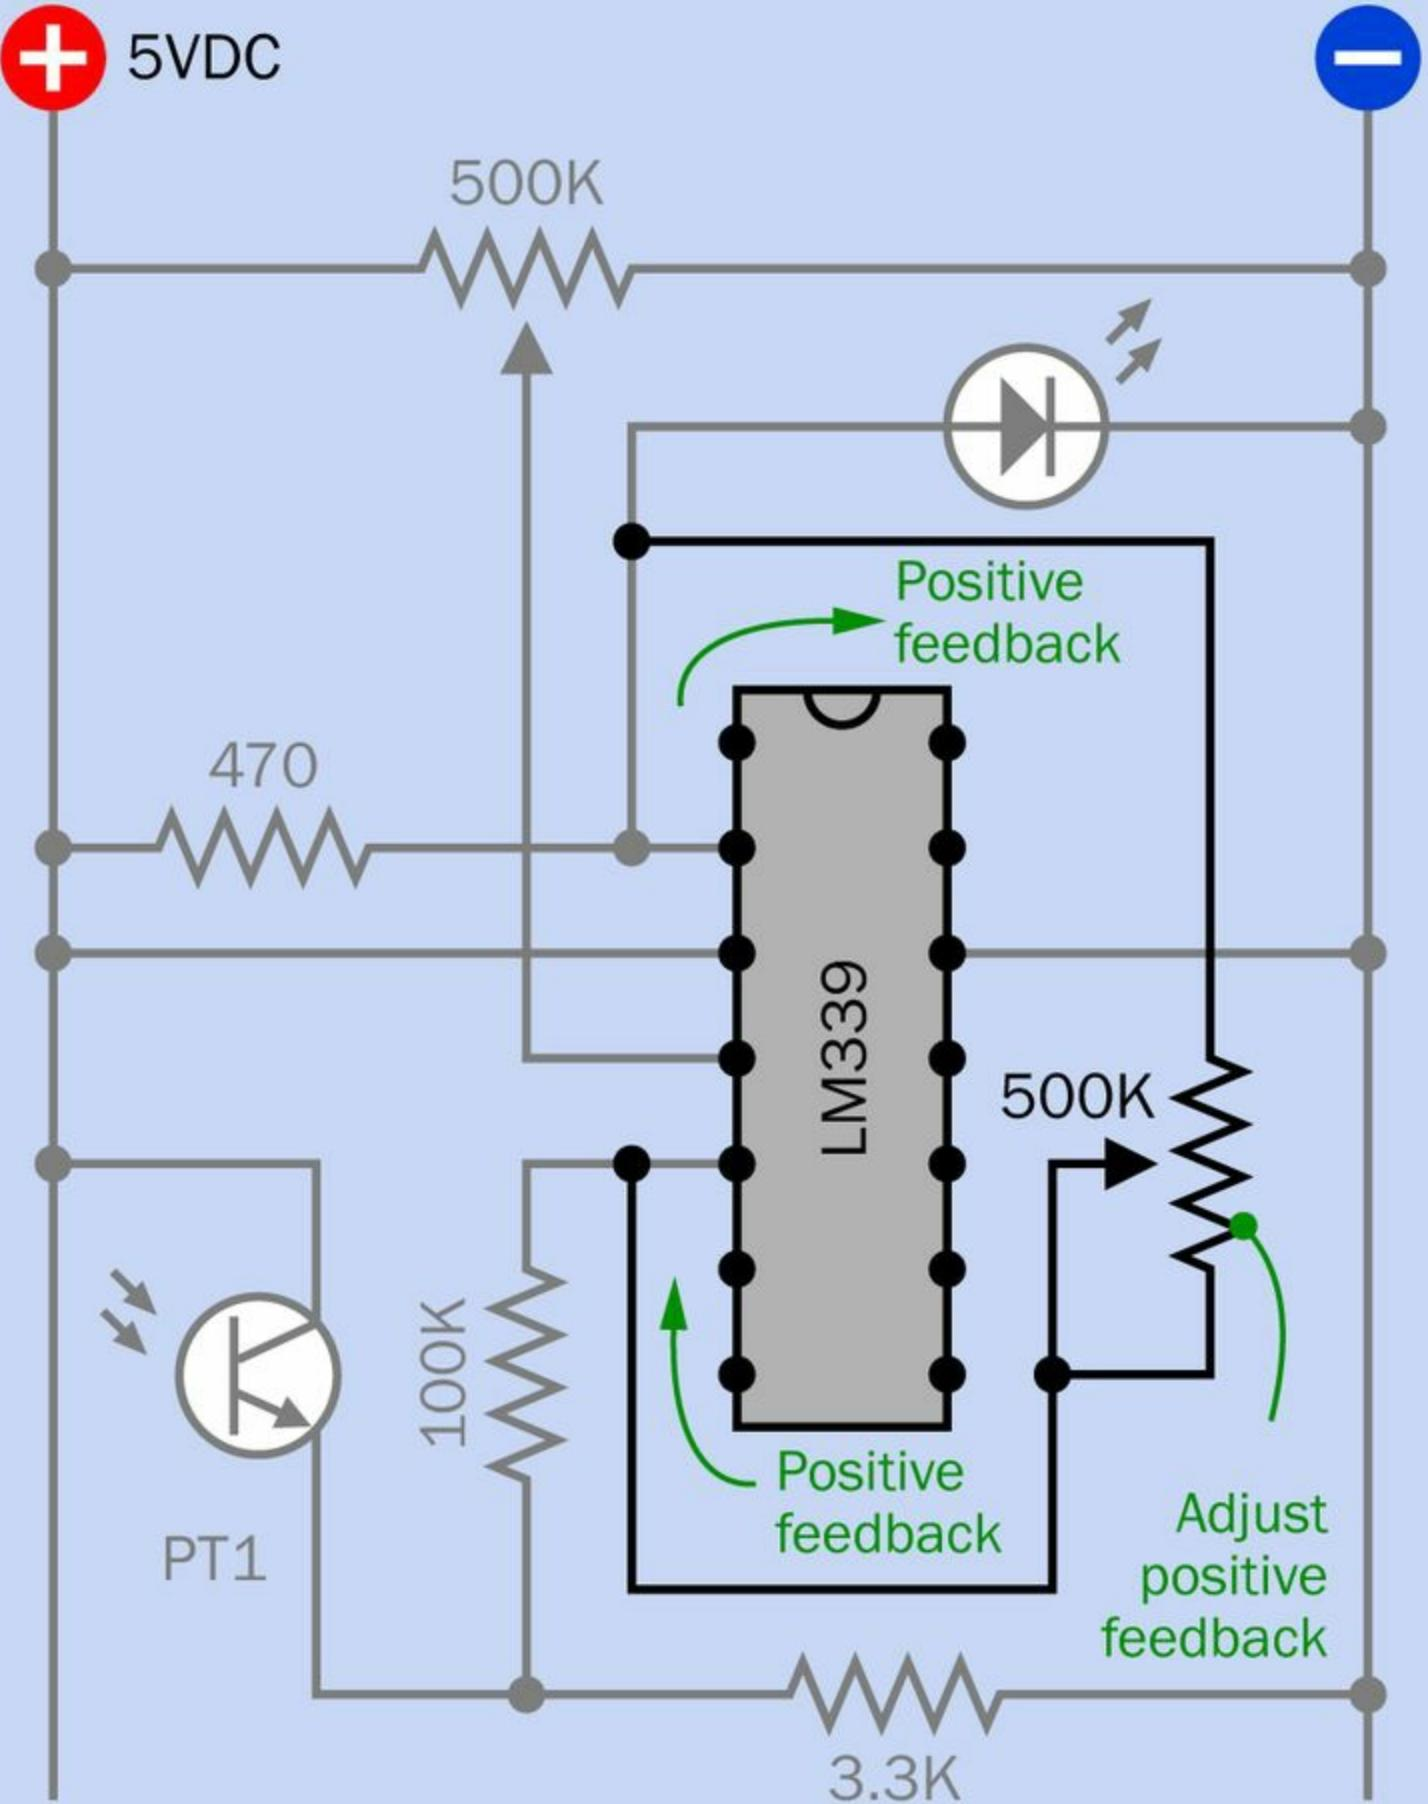
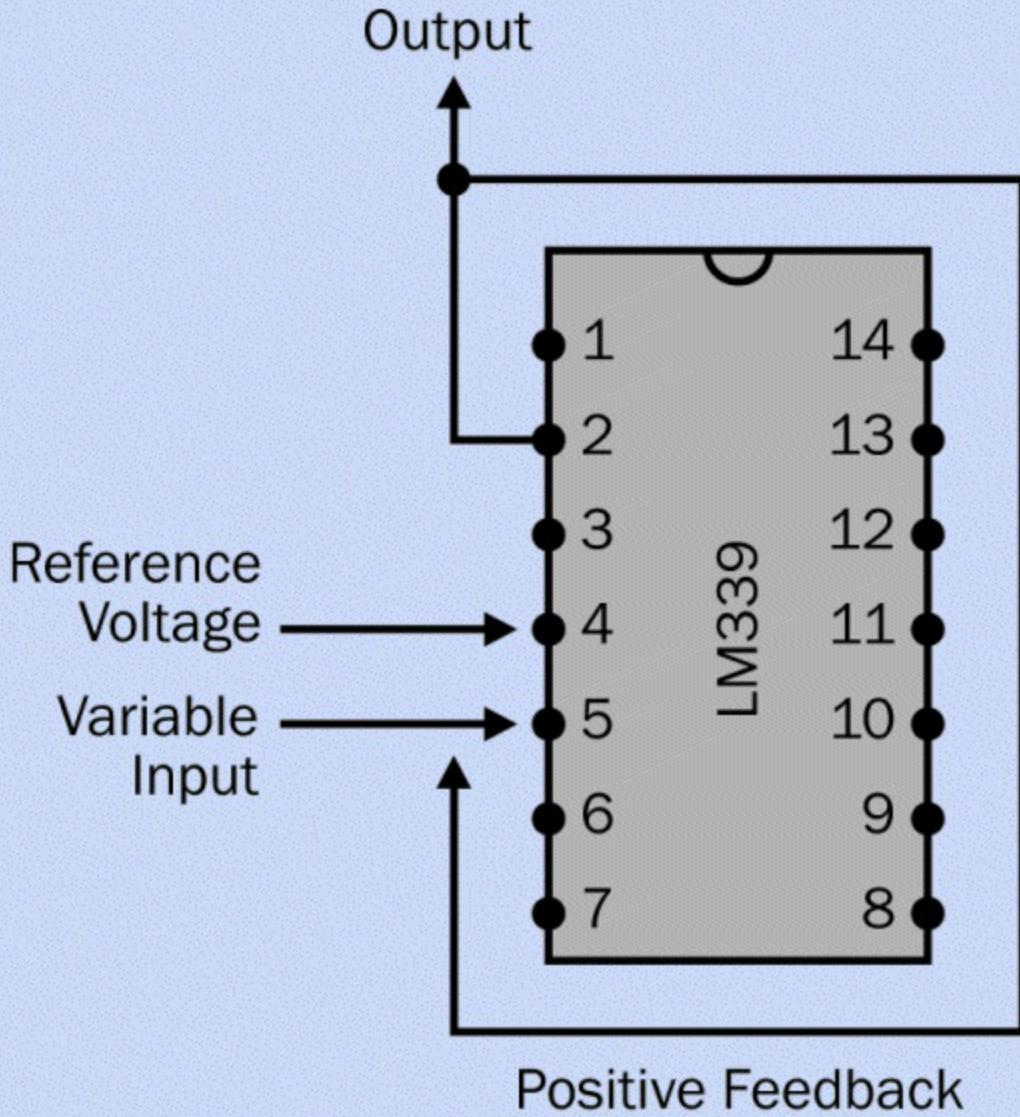
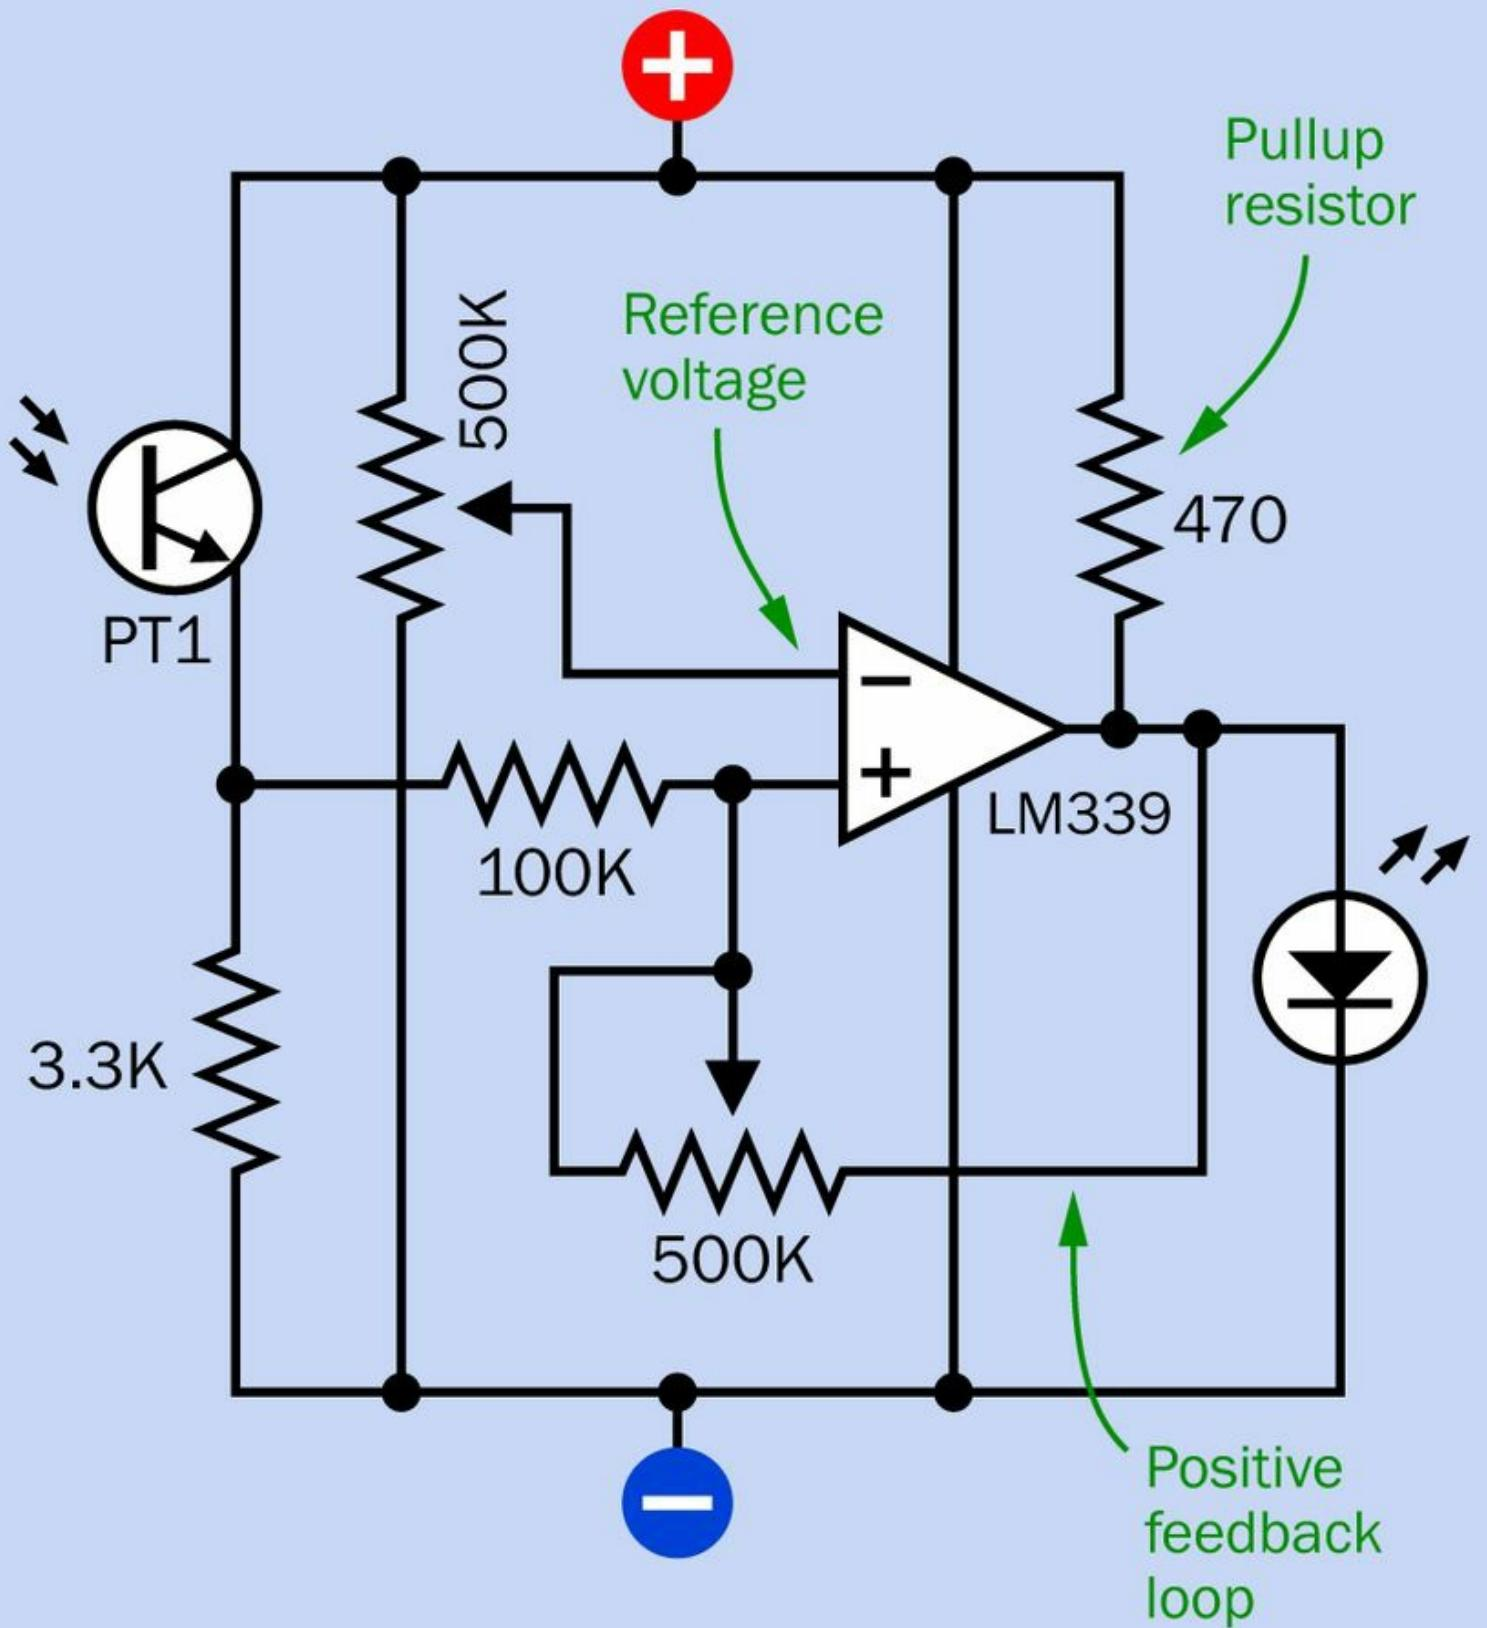

Figure 6-3. The basic comparator circuit has been modified to clean up its output, by the addition of positive feedback.
Figure 6-5. The basic concept of positive feedback.
Figure 6-13. A more typical layout of components in a basic positive-feedback loop using a comparator.
Figure 6-3 shows the same circuit as before, but with an additional potentiometer on the right.
The basic idea of this circuit is shown in Figure 6-5. Notice that pin 2 of the comparator chip is connected back to pin 5. Pin 2 is the output (remember, it controls the LED). Pin 5 is the variable input — the phototransistor is connected with it through the 100K resistor. So the second potentiometer in Figure 6-3 is taking some of the voltage from the output and feeding it back to the input. This is the positive feedback.
- Most comparators should have their outputs connected to devices with high input impedances, such as logic chips. That kind of chip demands very little current, so you can use a relatively high-value pullup resistor, which is typically 5K. The 470Ω resistor in the schematic in Figure 6-3 is relatively low because the comparator had to drive an LED.
The schematic that I showed you in Figure 6-3 was laid out so that it would be as easy as possible for you to transfer to a breadboard. But other people don't make it so easy for you to breadboard a circuit. They tend to put positive voltage at the top, negative ground at the bottom, input on the left, and output on the right. This convention is used because the circuit is easier to understand when you look at it for the first time.
Figure 6-13 is an example of a conventional schematic using a comparator. The components and connections are actually the same as in Figure 6-3.